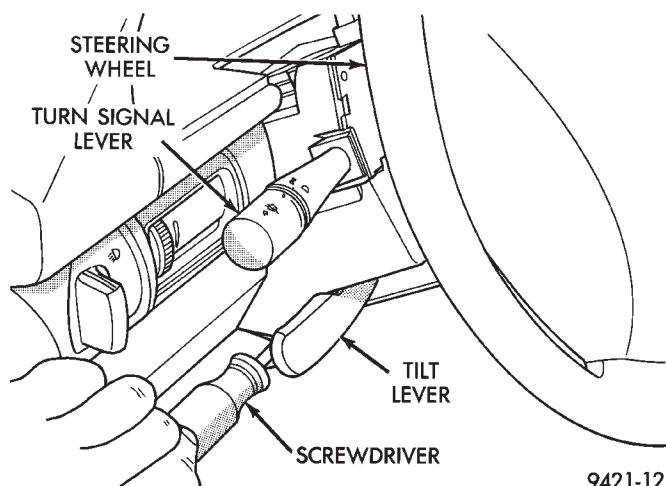

Fig. 16 Tilt Lever Screw Removal
(4) Raise column up and remove tilt lever (Fig. 16).